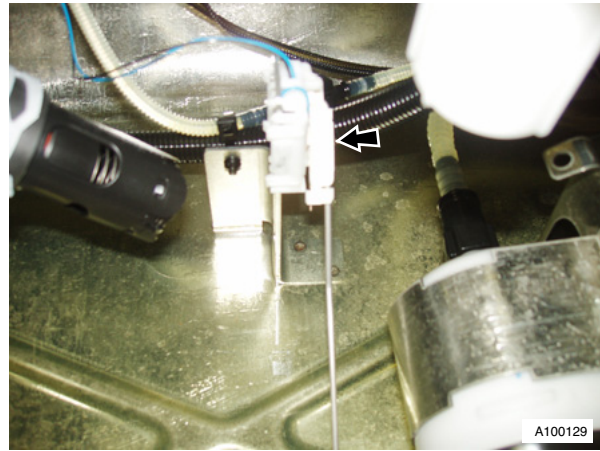

Fig. 3
11. Remove fuel tank sender unit (see Fig. 3).